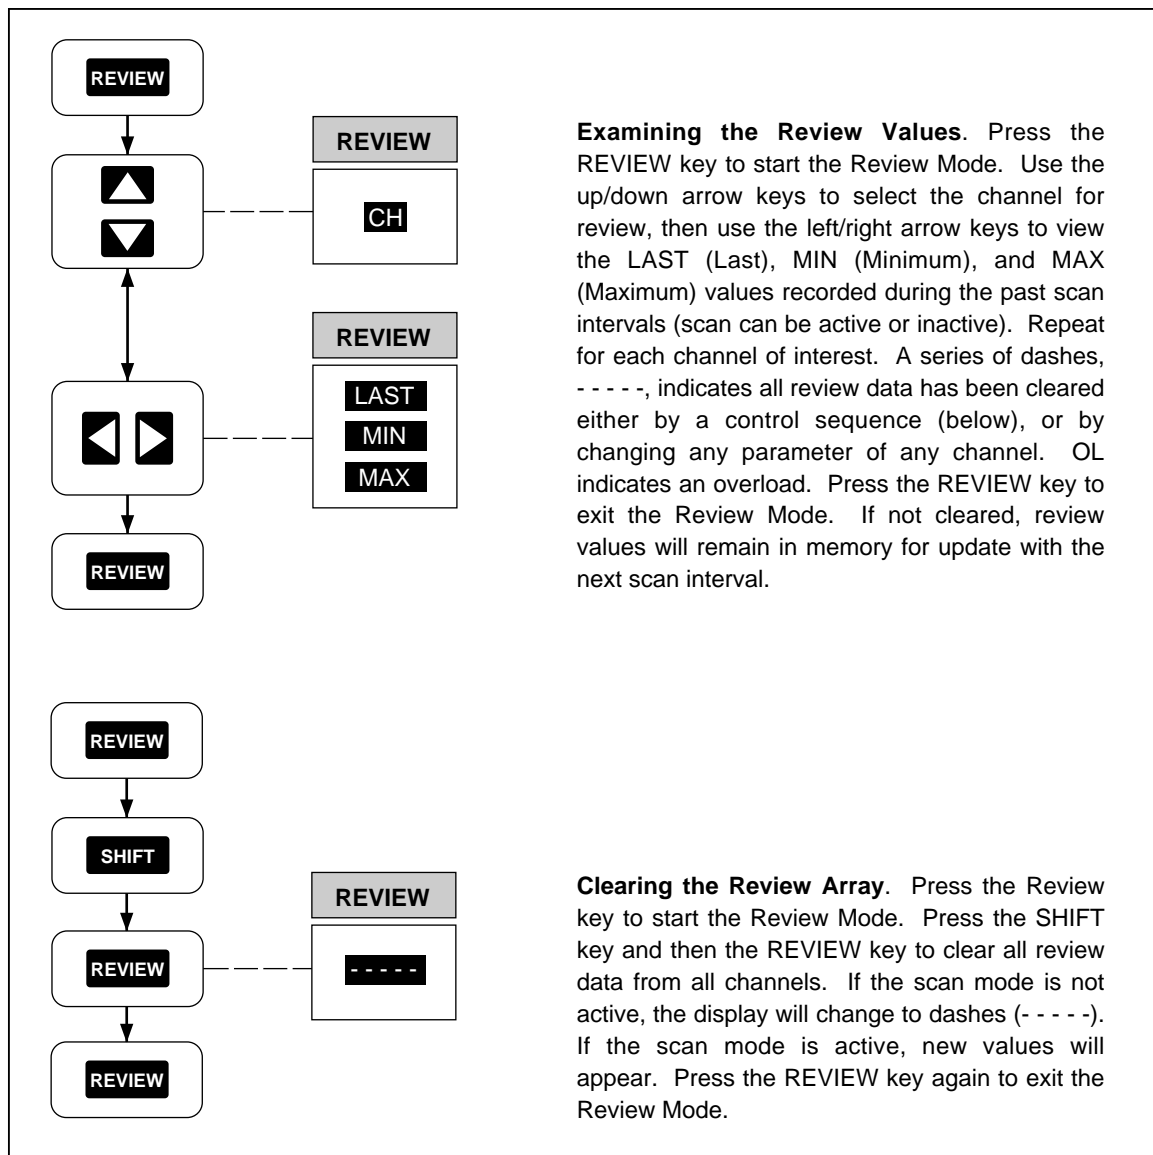

Figure 2-18. Using the Review Mode
- Using the Review Mode (Figure 2-18)
Perform the procedure in Figure 2-15 to start and stop the Scan Mode of operation. The Scan Mode can be started when the instrument is inactive, in Monitor (Figure 2-17), or Review (Figure 2-18). Measurement results can be sent to a memory card (see Chapter 3, "Memory Card Operations") and PC (see Chapter 4, "Computer Operations") or printer (see Chapter 5, "Printer Operations"). When using the Scan Mode with a memory card, consider each of the following topics. (Memory card error messages are summarized in Figure 2-16.)
Perform the procedure in Figure 2-18 to operate the Review Mode of operation. The Review Mode is used any time during or after operation of the Scan Mode. While the instrument is in the Scan Mode, the last, maximum, and measurements for each scanned channel are stored in memory and updated with each scan, forming the Review Array. For example, during scan operations, **REVIEW** can be used to monitor the maximum measurement of a channel in real time. The Review Array is cleared by a control sequence (see Figure 2-18 below), or by changing any parameter of any channel or the measurement rate. The Review Array can be printed out using the **LIST** key (see Figure 5-4). If the instrument is in the Review Mode and scanning using the memory card, any illegal memory card operations is noted only with a double "beep." If a double beep is heard, exit the Review Mode and check the memory card error (see Figure 2-16).